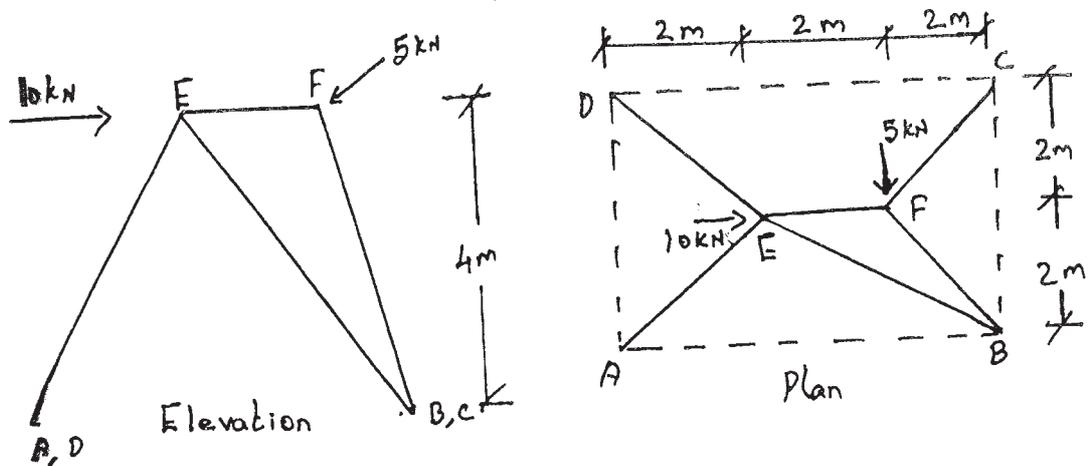

Fig. 12 (a)
12. (a) The plan and elevation of a space truss is shown in Fig. 12 (a). Determine the forces in the members CF, EF and BF of the truss.